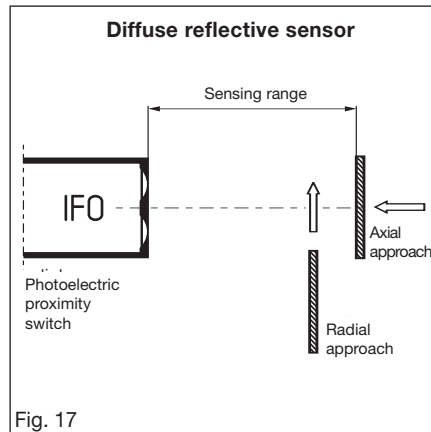

Fig. 17
- as retro-reflective sensor (with reflector) (Fig. 17)